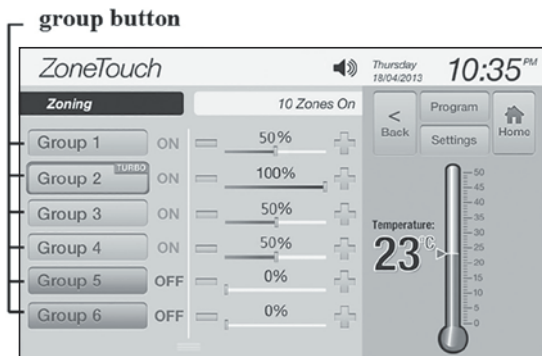

Figure 2
- a) On the home screen, touch a group button (Figure 2) to change the on/off group status and the dampers of the group will open or close accordingly.